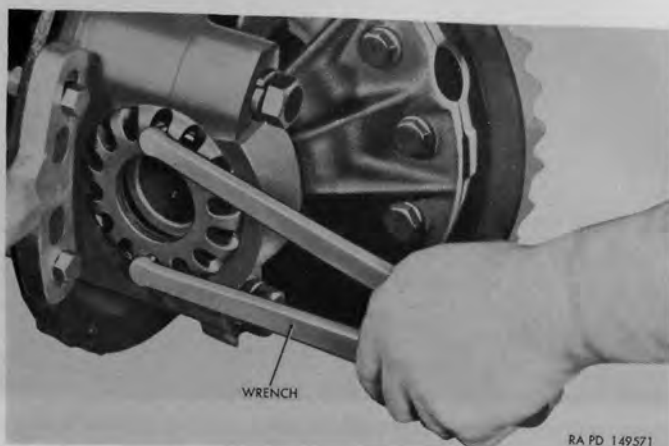

Figure 144. Adjusting drive gear and pinion with spanner wrench
- (1) *Removal of thrust pad and screw.*—Loosen $\frac{7}{8}$ -14 nut (BB) which locks $\frac{7}{8}$ -14 x $3\frac{3}{4}$ screw (CC) in differential carrier; then remove $\frac{7}{8}$ -14 x $3\frac{3}{4}$ screw (CC) and thrust pad (DD) from carrier.
- (2) *Removal of bearing adjusting nut.*—Remove $\frac{5}{16}$ -18 x $\frac{5}{8}$ cap screws (E), $\frac{5}{16}$ -inch lock washers (F), and bearing adjusting nut locks (G). Loosen $\frac{11}{16}$ -11 x $3\frac{5}{8}$ cap screws (D) several turns to free adjusting nuts. Use spanner wrench 41-W-3247-500 in manner illustrated in figure 144 to remove adjusting nuts.
- (3) *Removal of bearing caps.*
- (2) *Position differential assembly.*—Place cup on each differential side bearing cone; then carefully position differential assembly in carrier.
- (3) *Installation of bearing caps.*—Select proper bearing cap (J) according to identification marks made at time of disassembly and install in proper position, being sure that cap dowels (K) are in place. Install $\frac{11}{16}$ -11 x $3\frac{5}{8}$ cap screws (D) and $\frac{11}{16}$ -inch lock washers (H). Tighten cap screws only until lock washers just start to flatten, being certain that bearing cups are not cocked.
- (4) *Installation of bearing adjusting nuts.*—Use extreme care when starting bearing adjusting nuts (A) and (V) to be sure that they are not cross-threaded. When certain that nuts are properly started, tighten $\frac{11}{16}$ -11 x $3\frac{5}{8}$ cap screws (D) until bearing adjusting nuts (A) and (V) can just be turned. Use adjustable spanner wrench 41-W-3247-500 in manner illustrated in figure 144 and thread each nut into carrier alternately and equally until tight. During tightening, rotate differential to be sure that bearings are seating.